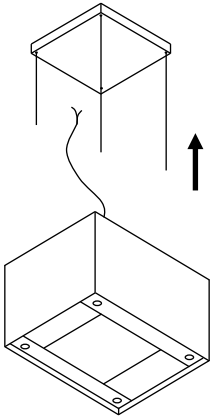

Fig 8
6. Lift the Medea up to the strings (Fig 8).